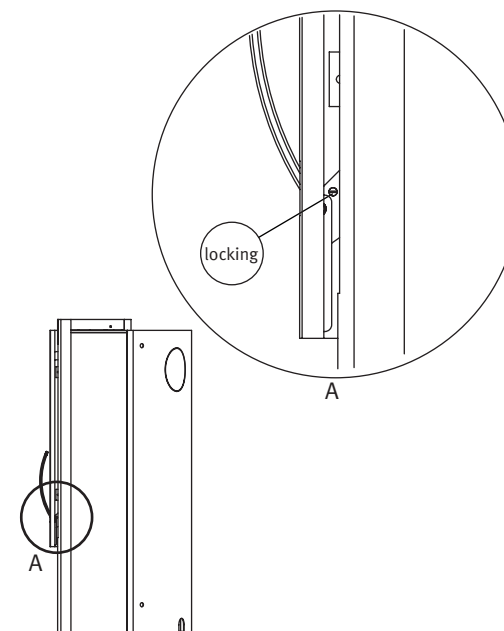

fig. 4
2. Open the door by first loosening the locking screw in the door handle, then pull down the handle (See fig. 4).